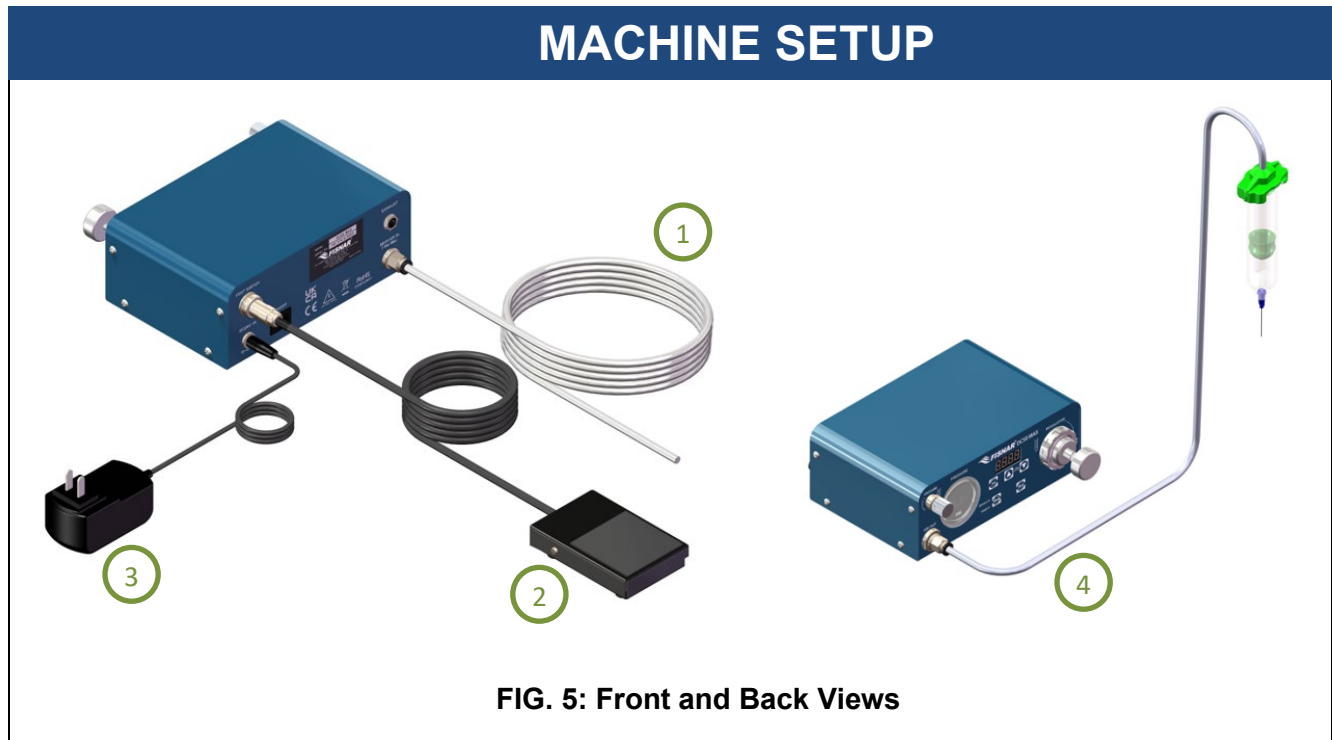

FIG. 5: Front and Back Views
1.	Connect the air hose (1) from compressed air 70-100 psi (5-7 bar) to the air inlet port on the back of the machine. See FIG. 5.
2.	Insert the foot pedal connector (2) to the port on the back of the machine. See FIG. 5.
3.	Attach appropriate country type plug adapter onto the power supply and then connect the electrical power cord (3) to the port on the back of the machine. See FIG. 5.
1.	Connect the syringe barrel adapter head assembly to the “Air Out” port on the front of the machine. (4) See FIG. 5. Fisnar adapter head assemblies are fitted with a green colored push to connect fitting (5606038) that can be inserted directly into the “Air Out” port on the front of the machine.